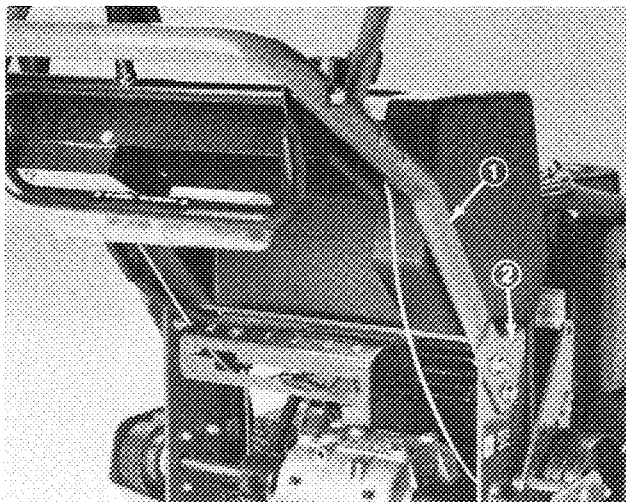

Figure 4
1. Align upper handle mounting holes with desired mounting holes in frame and secure each side with (2) 3/8-16 x 1" lg. flange capscrews and flangenuts (Fig. 4).